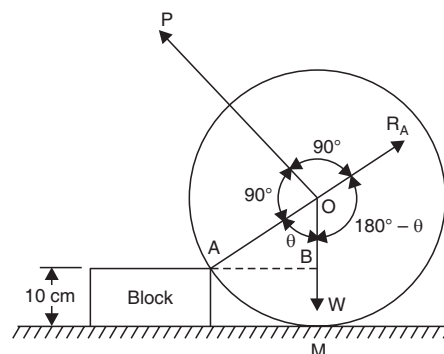

Fig. 2.43
**Example 2.26.** A uniform wheel 40 cm in diameter rests against a rigid rectangular block 10 cm thick as shown in Fig. 2.43. Find the least pull through the centre of the wheel to just turn it over the corner of the block. All surfaces are smooth. Find also the reaction of the block. The wheel weighs 800 N.
**Sol.** Refer to Fig. 2.43.